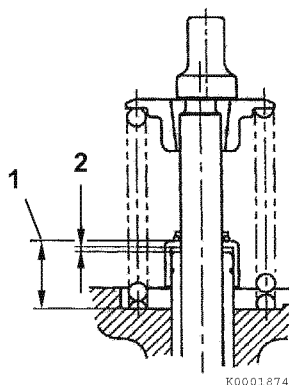

Figure 6-30
The exhaust valve stem seals are different than the intake valve stem seals and can be identified by either the paint marks on the outside of the seals or by the color of the seal spring (Figure 6-30, (4)). Ensure they are installed in the correct locations.
2. Measure the distance (Figure 6-30, (1)) from the cylinder head to valve stem seal to ensure proper clearance (Figure 6-30, (2)) between the guide and the seal. See *Valve Stem Seal Projection specification on page 6-6.*